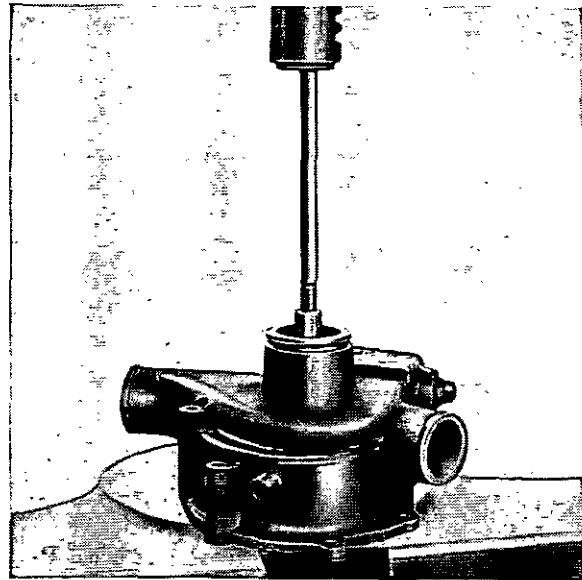

Fig. L.4.
2. Press water pump shaft complete with impeller out of the body, from the front (Fig. L.4).